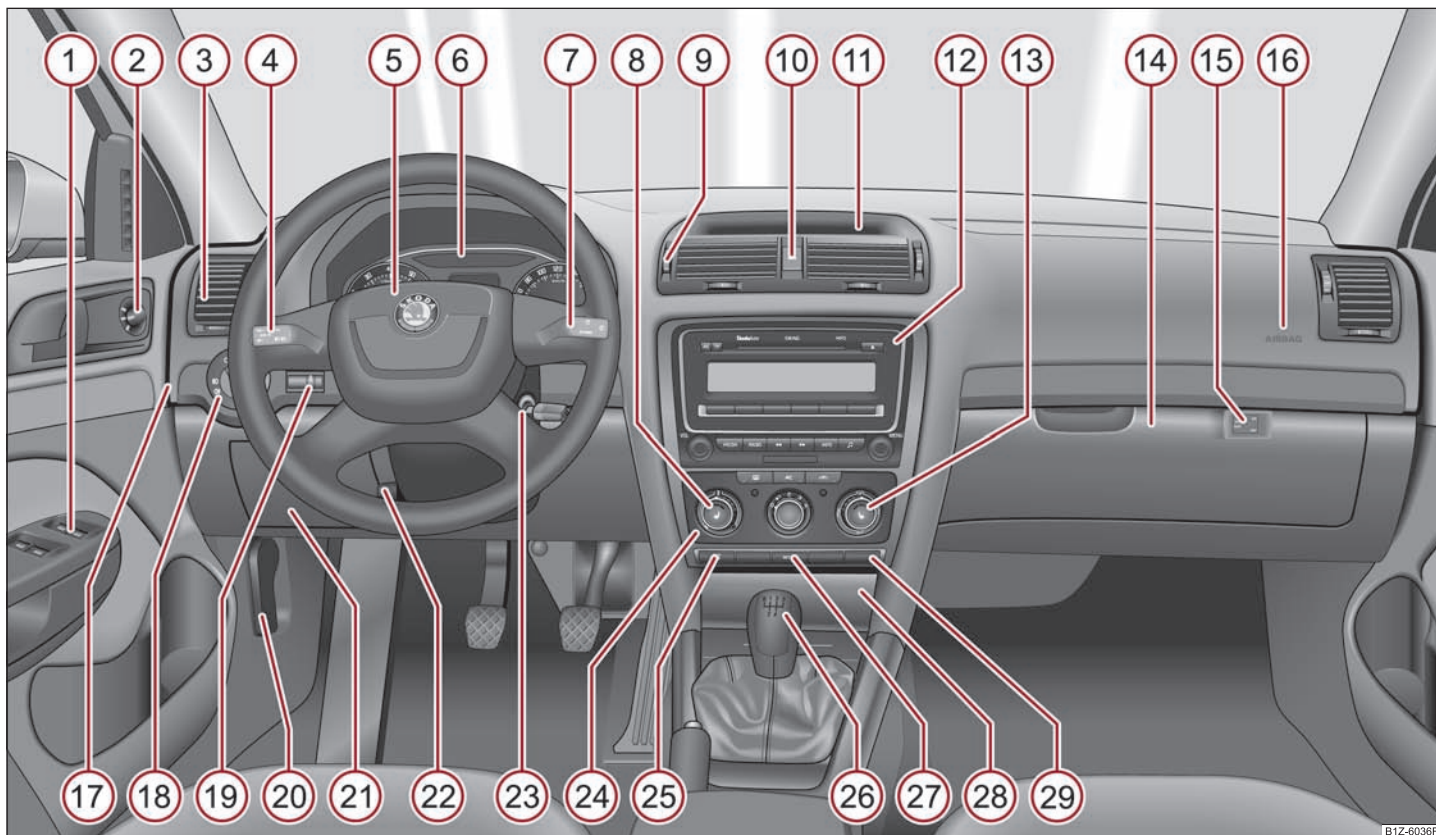

Fig. 1 Certain items of equipment shown in the illustration are only fitted to particular model versions or are optional items of equipment.
- The arrangement of the control elements on right-hand drive models may differ to some extent from that shown in ⇒ page 8, fig. 1. However the symbols correspond to the individual control elements. ■